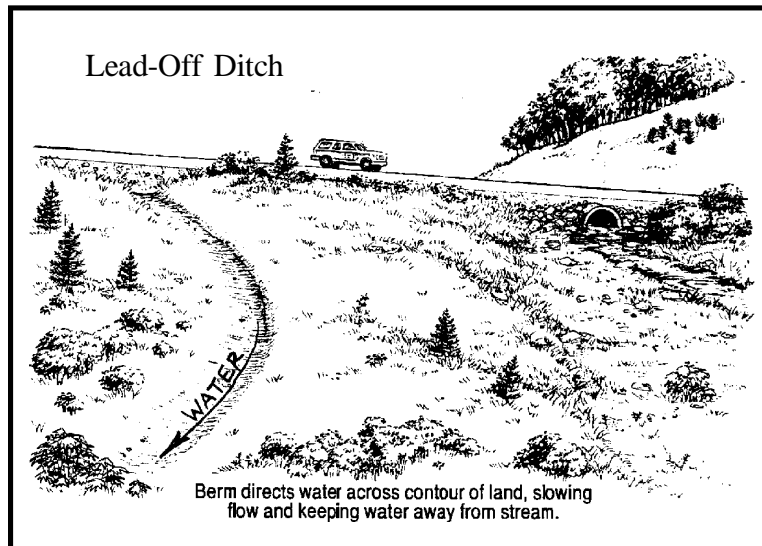

Figure ROAD-9
**U** Install cross drains and lead-off ditches to avoid carrying water long distances in roadside ditches. (See Figure ROAD-9.) Cross drains may include open-top culverts, pipe culverts and bridges.